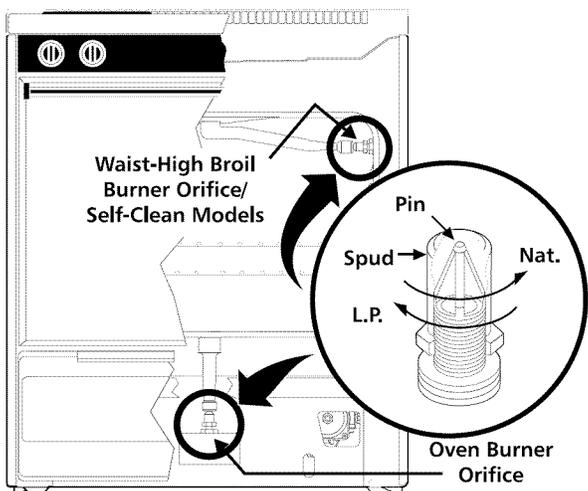

Fig. 8
- Locate the oven burner spud (See Fig. 8).
- Locate the broiler burner spud and turn down until snug against the LP/Propane metering pin (approximately 1 to 1-1/2 turns). **Do not over tighten** (See Fig. 8).